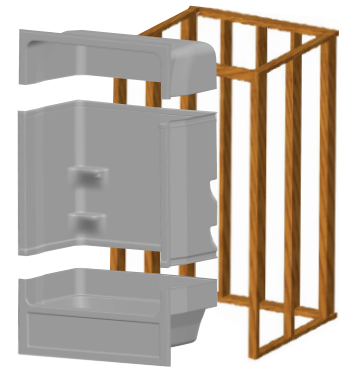

FIGURE 5
2. Position the tub section first as shown in Figure 5.